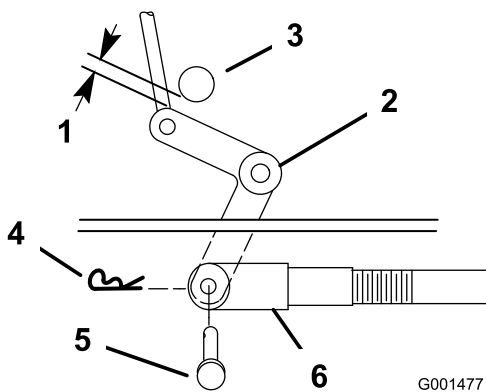
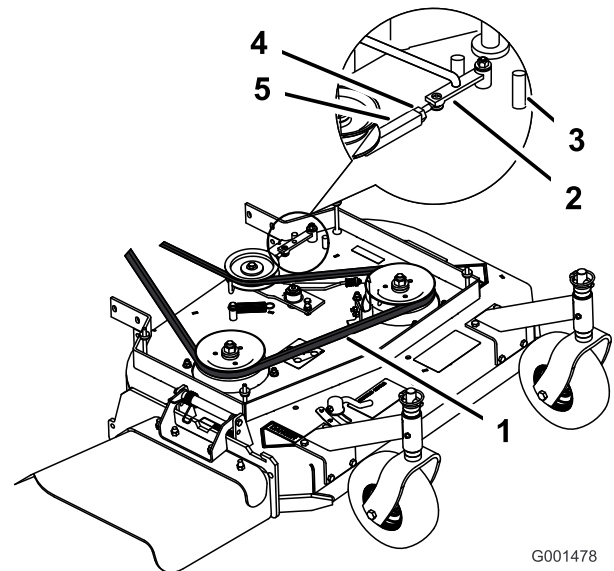
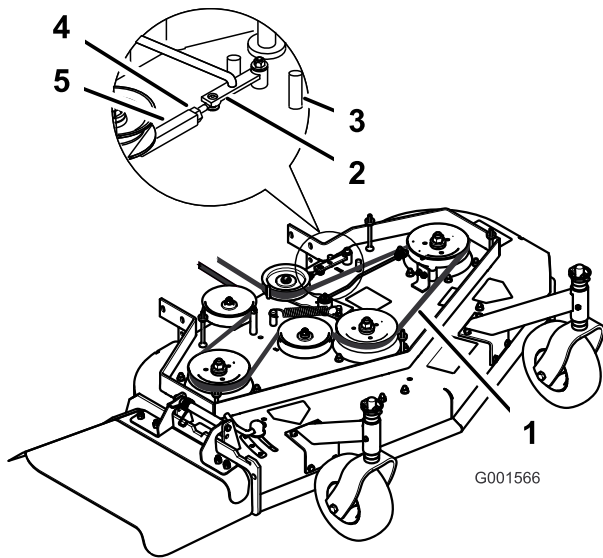

Figure 49
Figure 50
Figure 51
Note: The proper mower belt tension is 44 to 67 N·m (10 to 15 ft·lb) with the belt deflected 13 mm (1/2 inch) halfway between the pulleys (Figure 50 or Figure 51).
9. Check the clearance between the bell crank and the transmission output shaft (Figure 49).
11. Rotate the clevis clockwise on the rod to increase the clearance; rotate it counterclockwise to decrease it (Figure 49).
Note: If the assist arm does not contact the front stop on the mower deck (Figure 50 or Figure 51), adjust the clevis to bring the bell crank closer to the transmission output shaft (Figure 49).